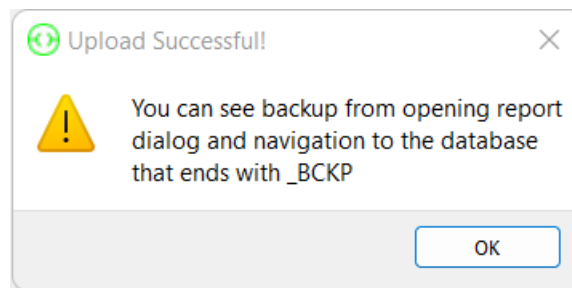

Figure 118: Recovering Chart Data - Upload Successful Dialogue Window
7. If your recovery of the cycle data for the channel selected is successful, you will see the 'Upload Successful' window shown in Figure 118 below. Click 'OK' to dismiss this window. You will now find the uploaded data in the 'Report' window in its own database ending in **_BCKP**.